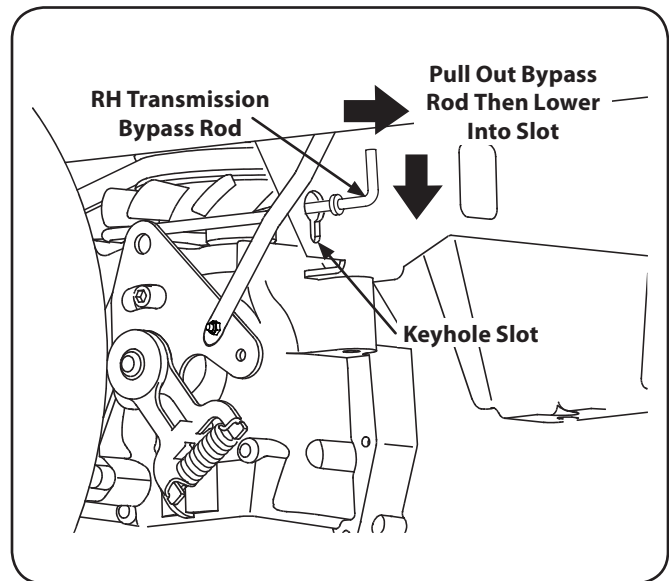

Figure 6-3
1. From just in front of the two rear tires, locate the transmission bypass rods. Refer to Figure 6-3.